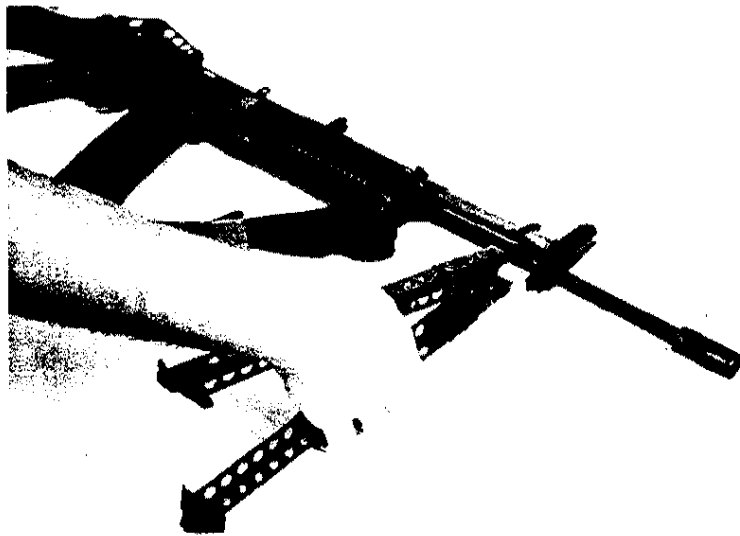

FIGURE 10. INSTALLATION OF BIPOD
a. The rifle may be fired from the standing, kneeling, squatting, sitting, or prone position. When using the bipod, the bipod will be clamped to the front of the barrel (figure 10).